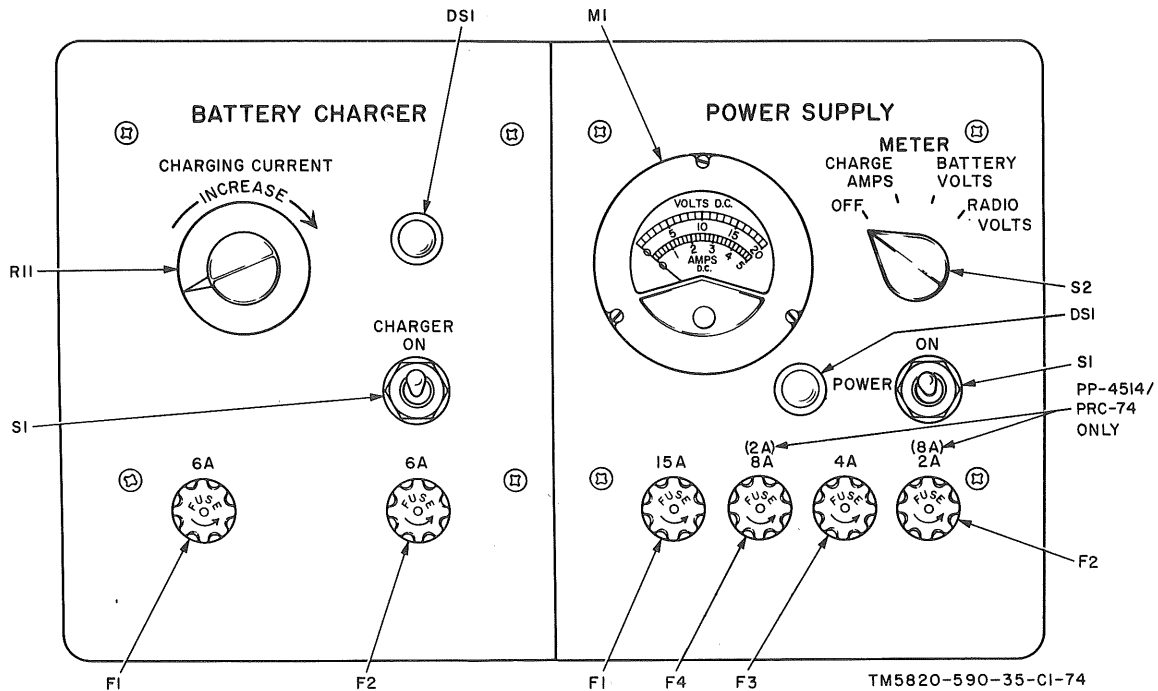
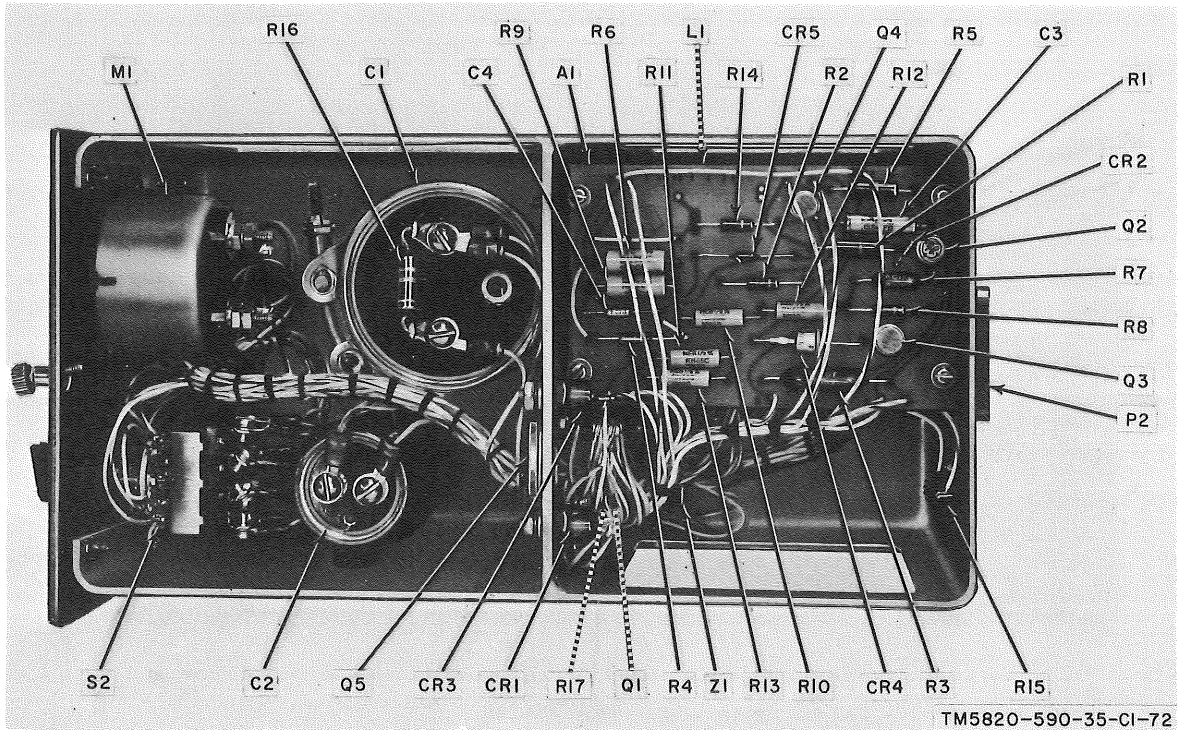
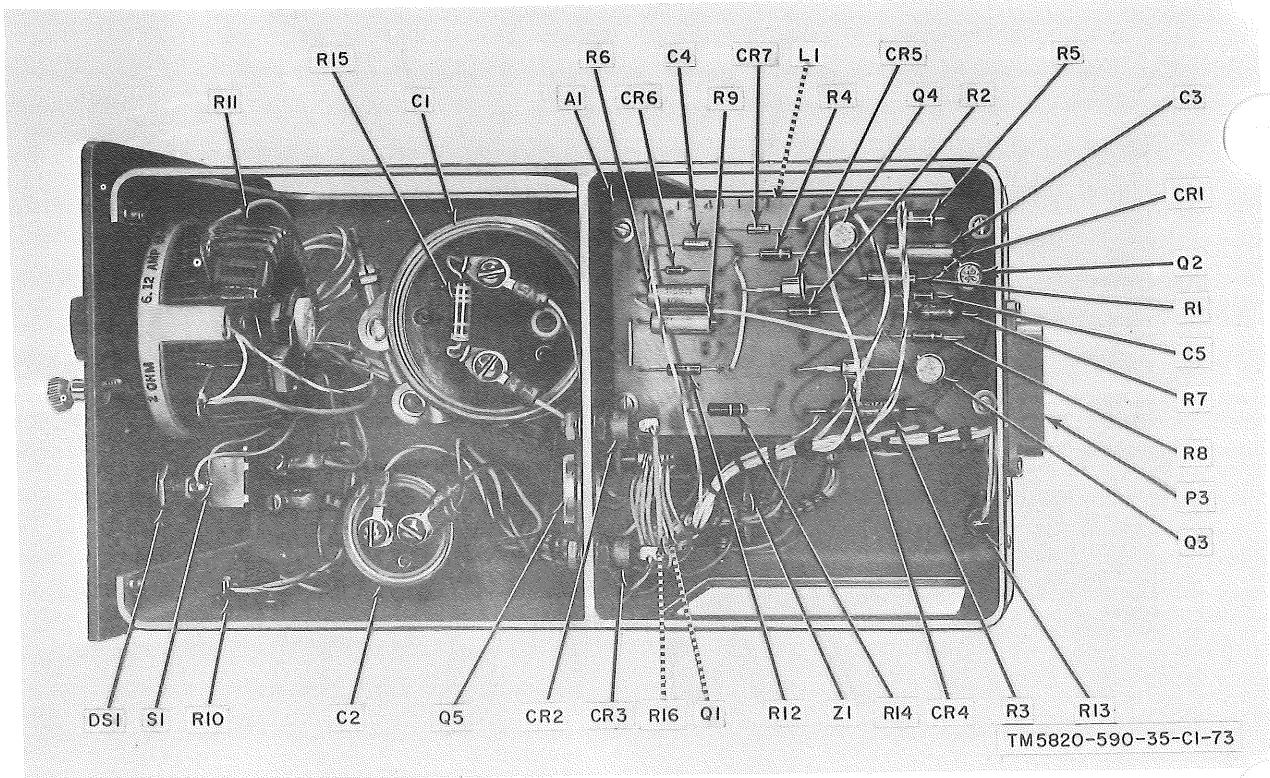

Figure 2-7. Power Supply PP-4514/PRC-74, front panel.
Figure 2-8. Power supply module.
Figure 2-9. Battery charger module.
(fig. 2-7)
(a) 15A fuse F1 (fig. 2-7). If fuse F1 is open, check capacitor C1 and diode CR1 (fig. 2-8). Replace if defective.
(b) 8A fuse *F4* (fig. 2-7). If 8A fuse *F4* is open, check transistor *Q5* and the associated components (fig. 2-8). Replace if defective. Also check for a short circuit at output connector *J4*, pins 2 and 6. Refer to the schematic diagram (fig. 6-15).
(6) If the panel meter indicated a voltage level above 18 volts, check overvoltage load protector *Z1* and the associated components. The normal resistance of *Z1* is 33 ohms when the TS-352B/U positive lead is connected to the plus terminal and is 140 ohms when the TS-352B/U leads are reversed. Replace if defective. Use figure 2-8 for parts location and figure 6-15 for troubleshooting.
(7) If the panel meter indicates normal voltage output, momentarily short circuit pins 2 and 6 of *J4* of the module case.
(8) Check to see that the panel meter drops to 0 volt.
(9) If the panel meter does not drop to 0
b. Battery Charger (fig. 2-9).
(a) 6A fuse *F1* (fig. 2-7). If 6A fuse *F1* is open, check capacitor *C2*, diode *CR2*, and associated components (fig. 2-9). Replace defective components.
(b) 6A fuse *F2* (fig. 2-7). If 6A fuse *F2* is open check transistor *Q5* and associated components (fig. 2-9). Replace defective components.
(7) With the METER switch set to BATTERY VOLTS, check to see that the normal voltage level of approximately 20 volts is indicated on the panel meter. *Momentarily* short circuit the battery clips of the cable together, and check to see that the panel meter drops to a 0-volt indication. (This procedure checks the operation of short protection switch Q3.)
(8) If 0 volt is not indicated when the battery clips are momentarily short circuited, check short protection transistor Q3 (fig. 2-9). If short protection switch Q3 is faulty and the battery clips are short circuited for too long, 6A fuse F2 (fig. 2-7) may open. Replace defective Q3 or 6A fuse F2 as required.